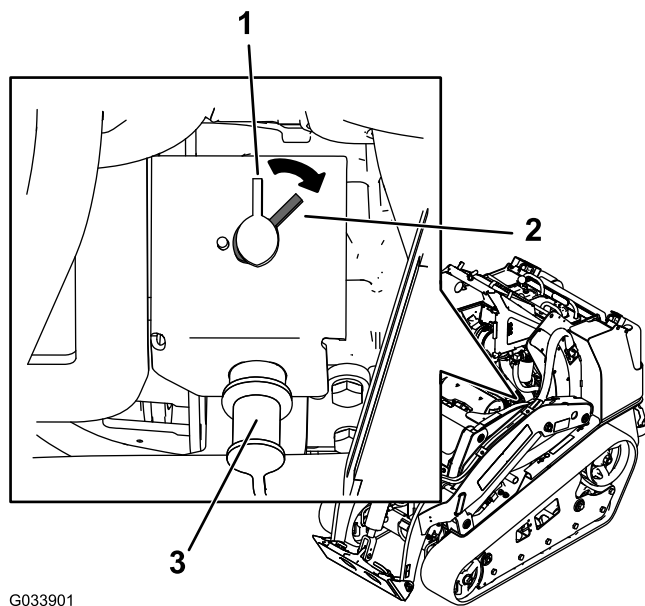

Figure 52
- To energize the machine electrically, rotate the battery-disconnect switch clockwise to the ON position (Figure 52).